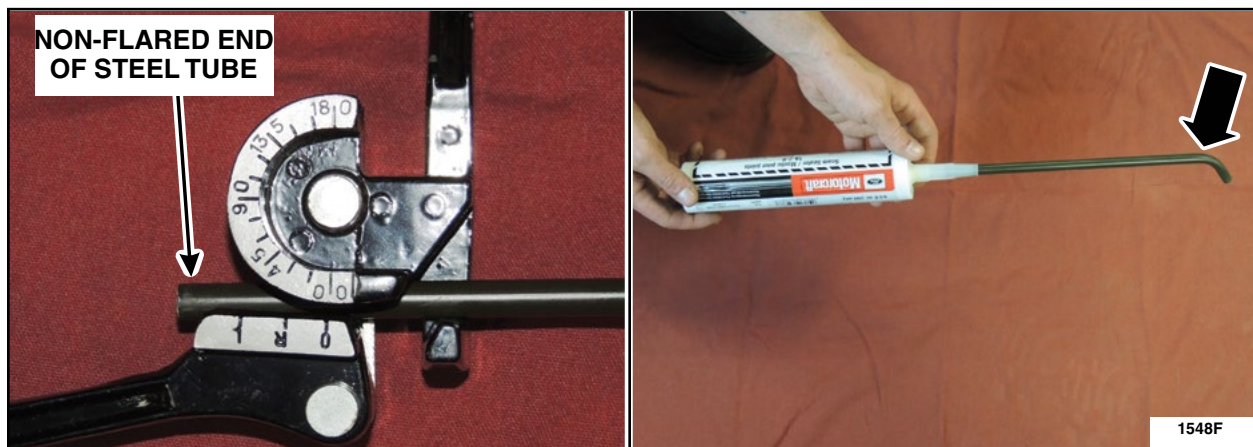

FIGURE 8
10. Insert approximately 38 mm (1.5 in) of the non-flared end of the 3/8" O.D. x 11" flared steel tubing into a tube bender and bend to a 45 degree angle. See Figure 8.